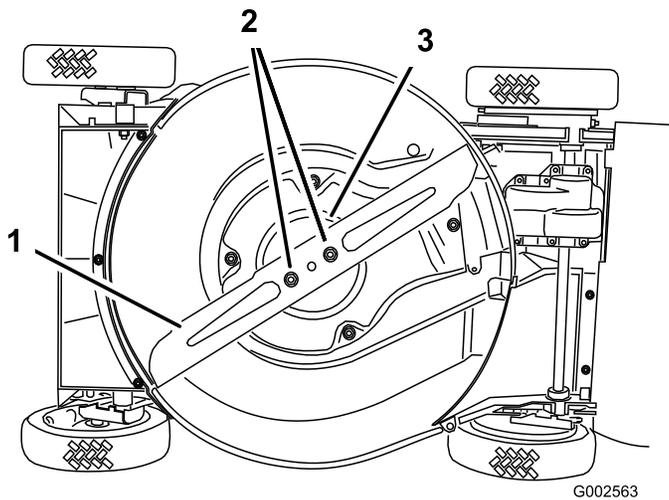

Figure 35
4. Tip the mower onto its **right** side (Figure 35).
Grasp the end of the blade using a rag or a thickly padded glove. Remove the blade nuts, the anti-scalp cup, and the blade (Figure 35).
5. Remove 2 blade nuts, the anti-scalp cup, and the blade (Figure 35).